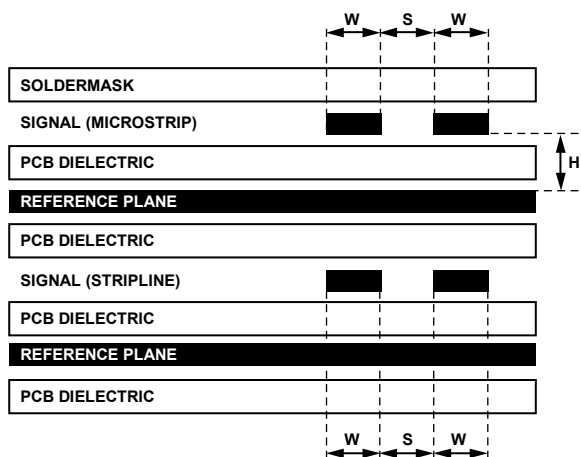

Figure 45. Example of a PCB Cross-Section
The high speed differential inputs and outputs should be routed with 100 Ω controlled impedance, differential transmission lines. The transmission lines, either microstrip or stripline, should be referenced to a solid low impedance reference plane. An example of a PCB cross-section is shown in Figure 45. The trace width (W), differential spacing (S), height above reference plane (H), and dielectric constant of the PCB material determine the characteristic impedance. Adjacent channels should be kept apart by a distance greater than 3 W to minimize crosstalk.